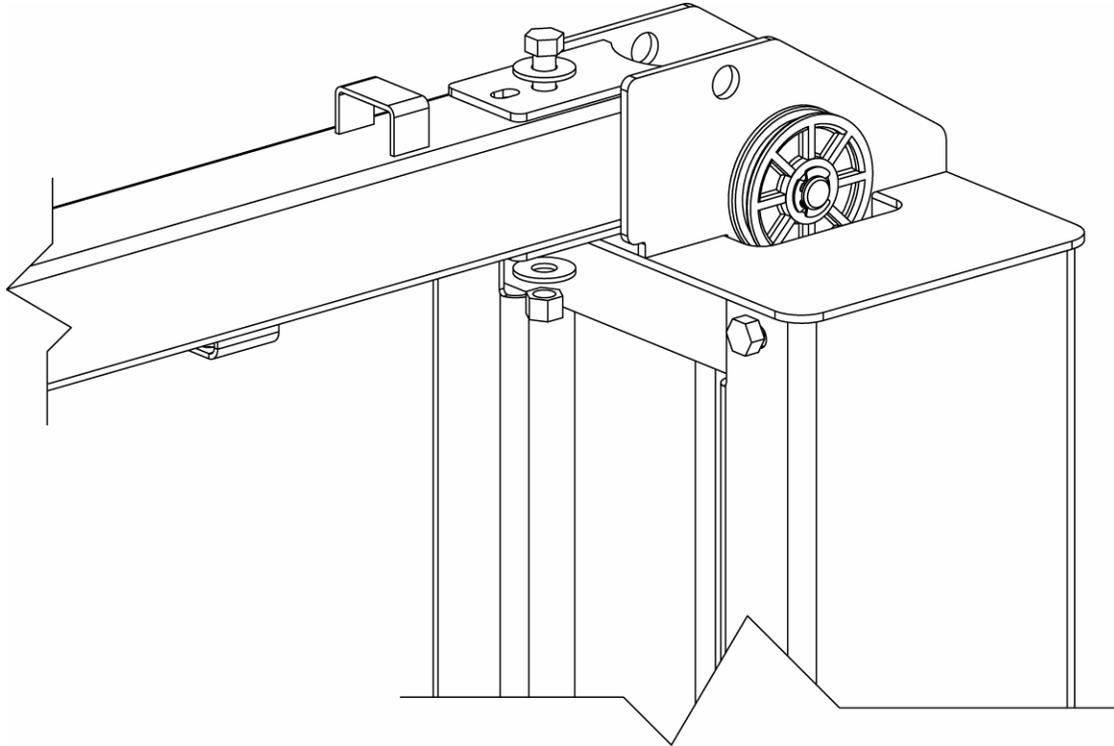

Figure 11
- * Raise the overhead beam and secure it to the upright using two 3/8 x 4-1/2 bolts, washers and nuts (typical both sides), Figure 11.